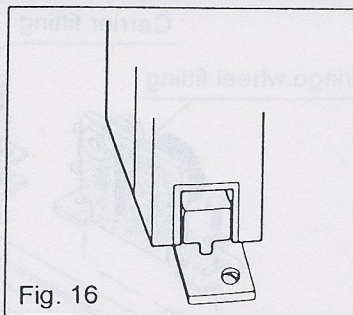
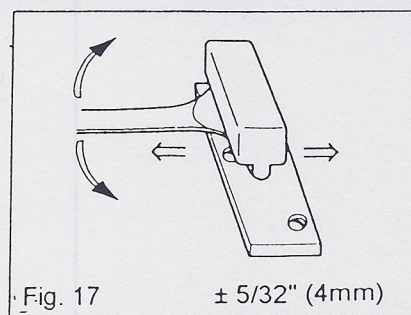

Fig. 16
Fig. 17
Push the door leaf sideways to clear the space for the floor guide. Fit the floor guide so that the back edge of the plastic block is in line with the back edge of the door leaf in the closed position (see fig. 16). The floor guide can be adjusted horizontally about $\pm 5/32"$ (4mm) after being installed, using the eccentric nut underneath the plastic block (see fig. 17).
2. The distance B is determined by floor track location on (Full breakout unit) or guide on (Fixed sidelite unit). **Note! On non-panic only distance B is to be adjusted with the eccentric nut on the floor guide (fig. 17, pg. 13).**